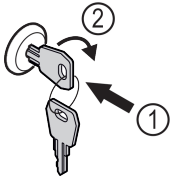

Fig. 87
- ▶ Insert key Fig. 87 (1).
- ▶ Turn key clockwise by 90° Fig. 87 (2).